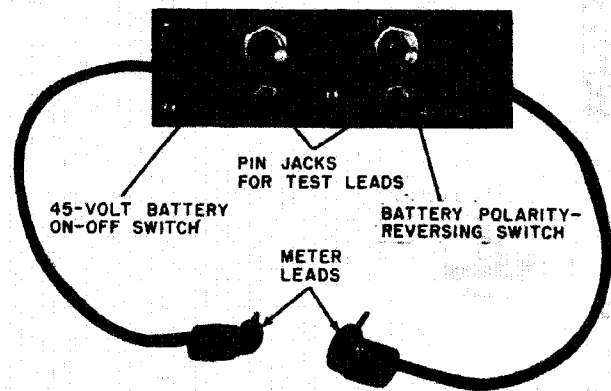

Figure 42. Test Set TS-26(\*)/TSM, switch panel assembly.
##### b. Switch Panel Controls (fig. 42).
c. Switch Panel Line Jacks (fig. 42).